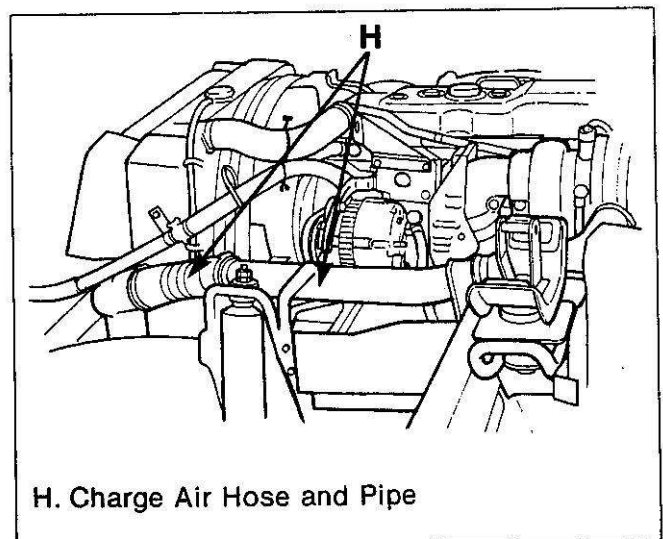

Figure 7c. Turbocharger Attachments Inspection (3)
- Charge air hose and pipe between the charge air cooler and intake manifold (H) for kinks or damage and connection looseness or leakage (figure 7c).